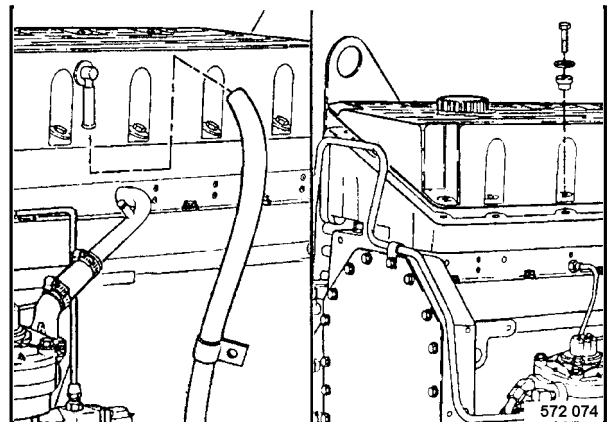

Fig. 2
- Remove the crankcase ventilation tube (Fig. 2).